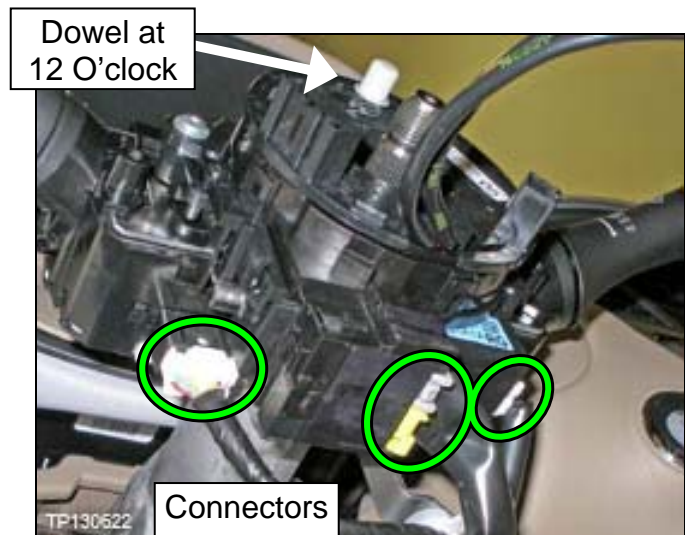

Figure 19
a. Disconnect all connectors where shown in Figure 19.